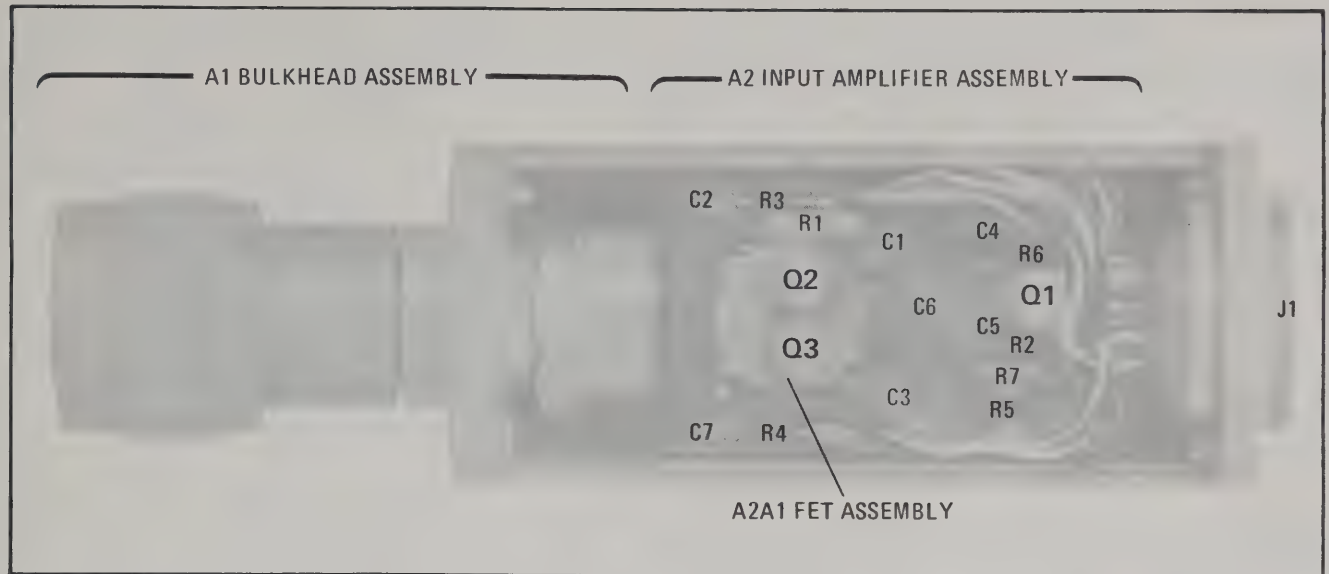
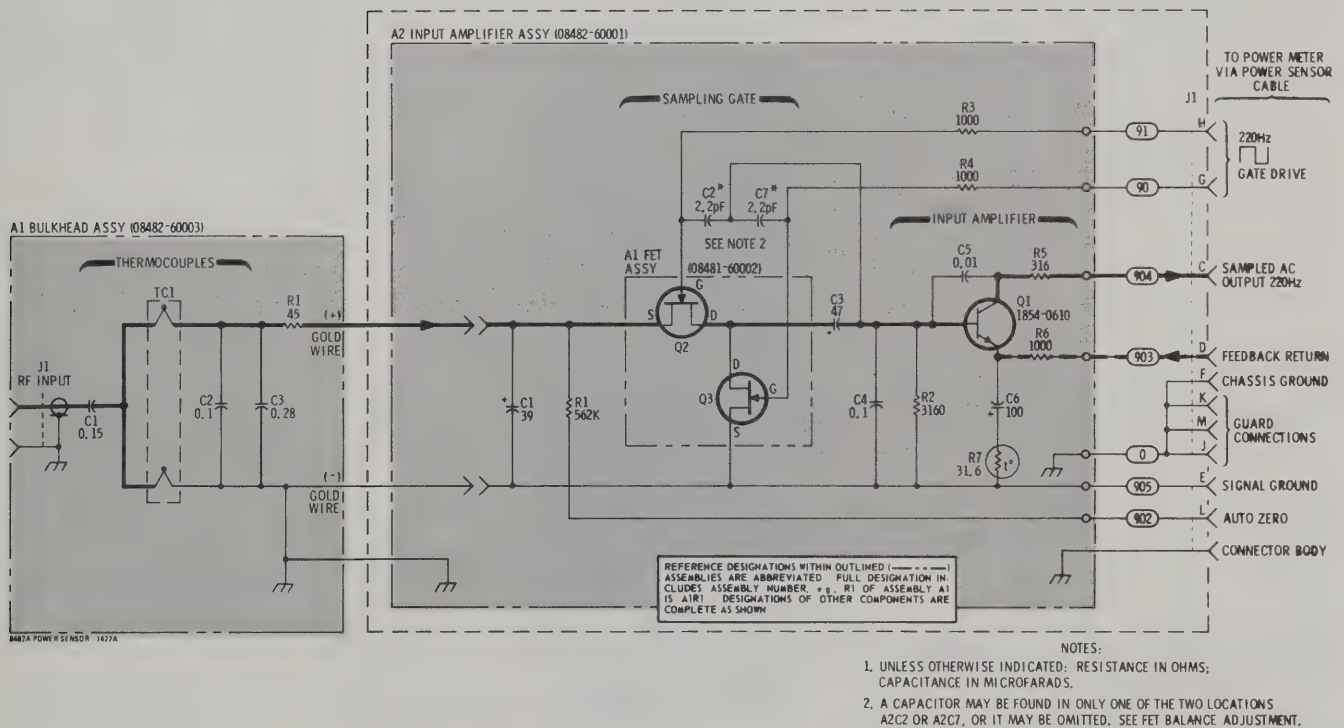

Figure 6. Model 8482A Assembly and Component Locations
Figure 7. Model 8482A Schematic Diagram
40. Figure 6 shows the locations of the assemblies and components of the Model 8482A and Figure 7 is the schematic diagram.